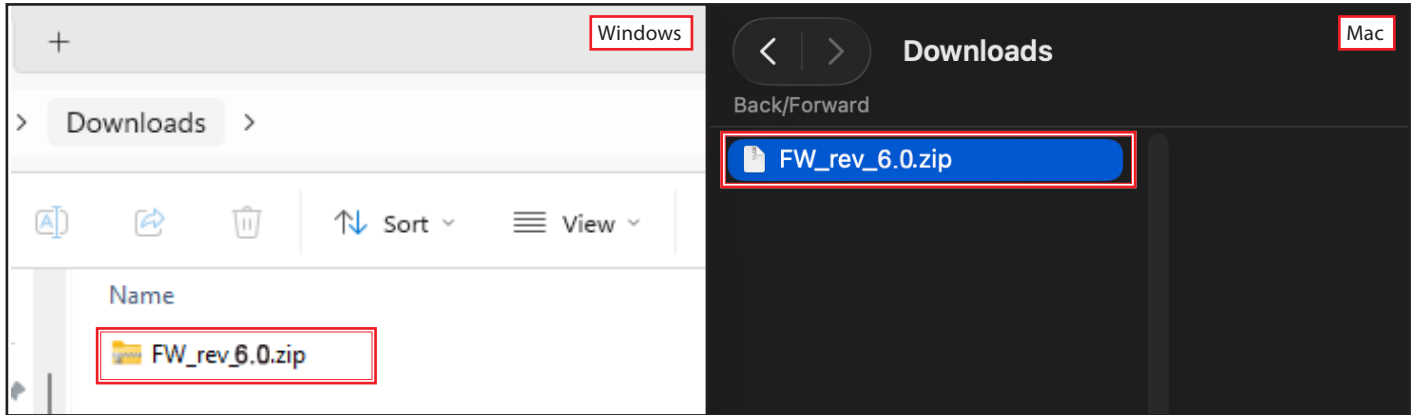

Fig. 6. Locate and open your download location.
6. Locate and open your download location. This is typically your downloads folder. See fig. 6.